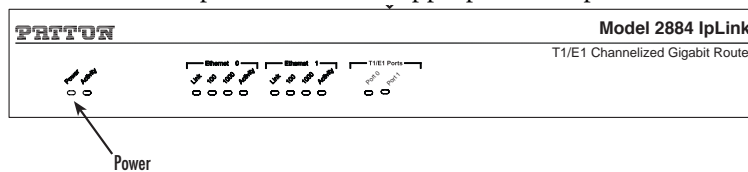

Figure 6. Power LED
4. Verify that the green *Power* LED is lit (see figure 6).
5. Verify that the green *Power* LED is lit (see figure 6).